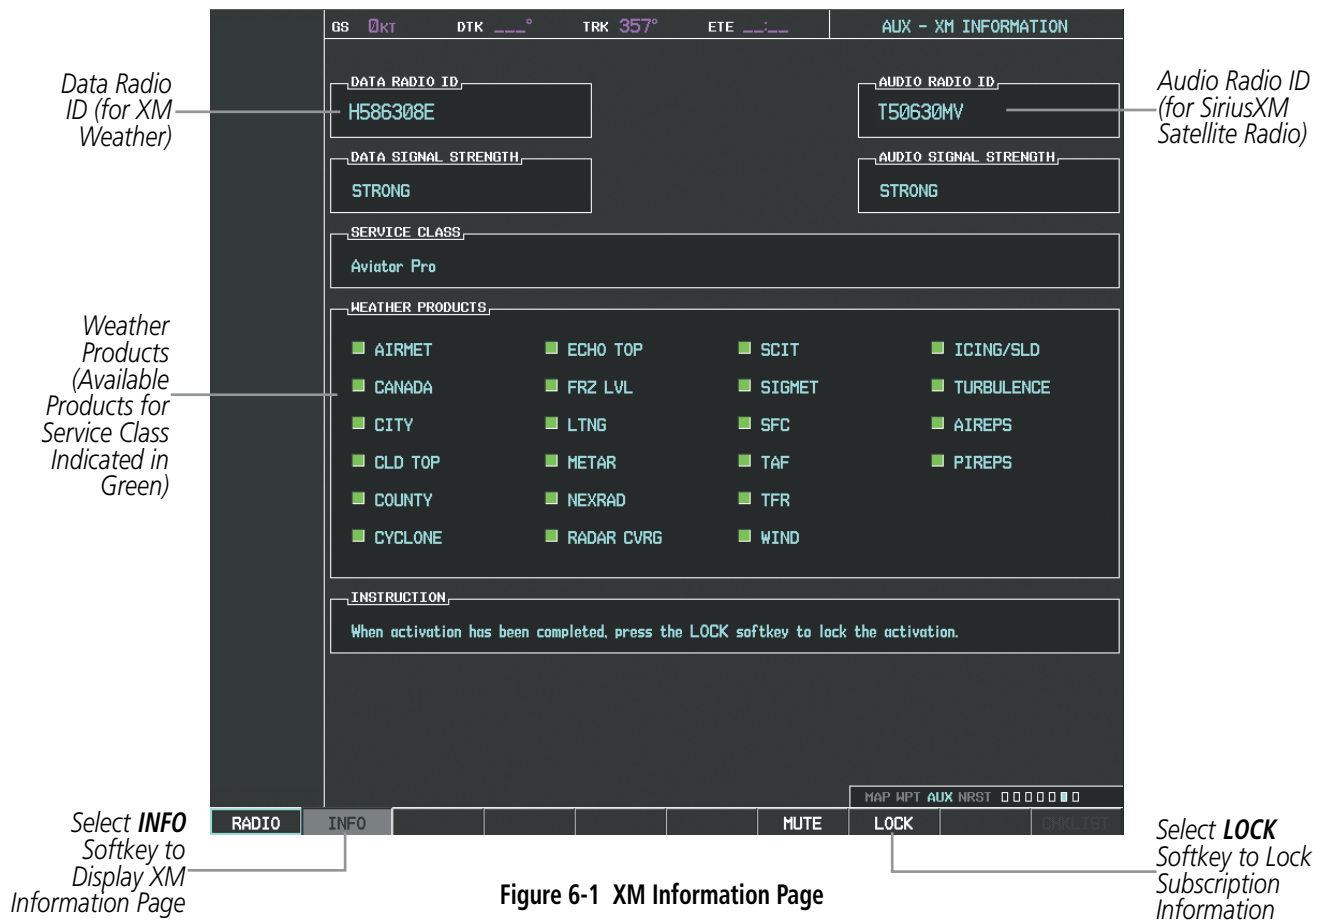

Figure 6-1 XM Information Page
- The AUX - XM Information Page on the MFD (Figure 6-1)